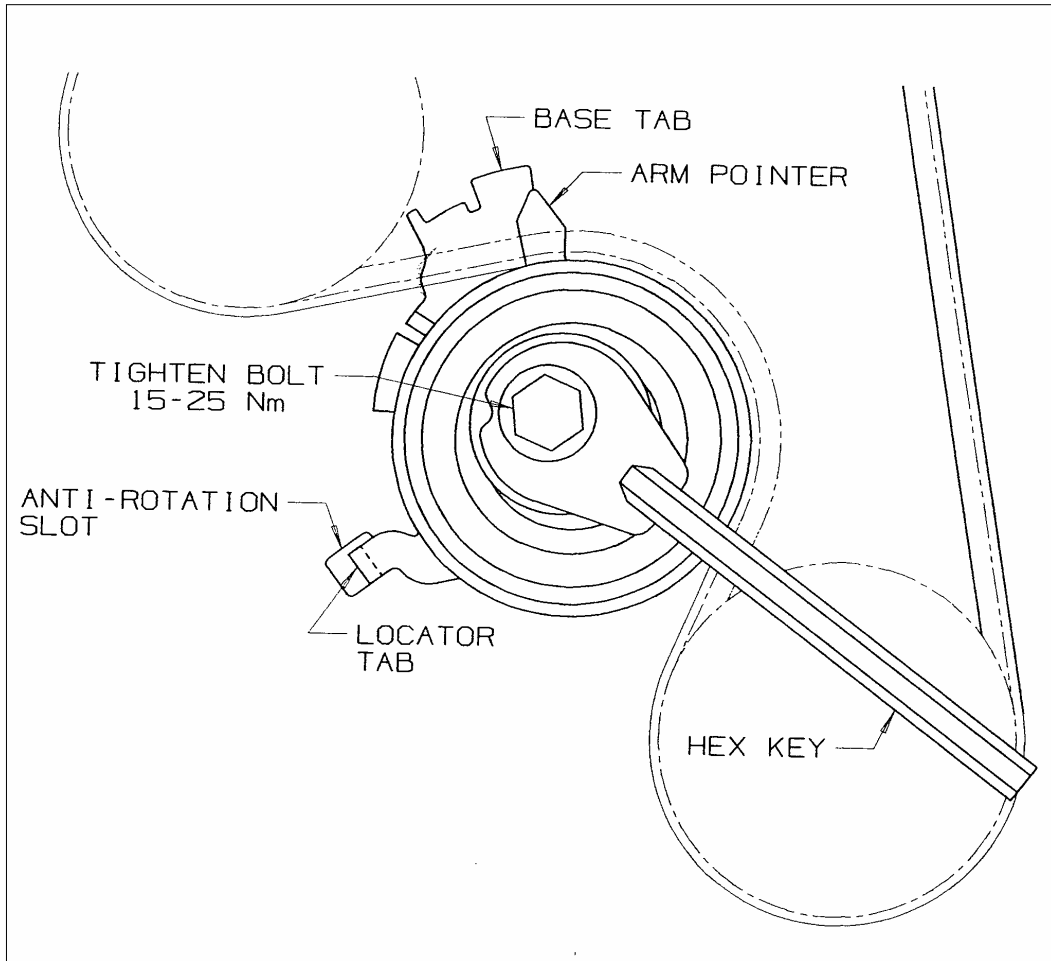

Figure 4: Proper Initial Setup of the Timing Belt Tensioner
9. Continue rotating the Installation Shaft until the Arm Pointer aligns with the right-hand edge of the Base Tab, then lock the tensioner in this position by tightening the M8 Mounting Bolt to **18~23 Nm** of torque (Figure 4).